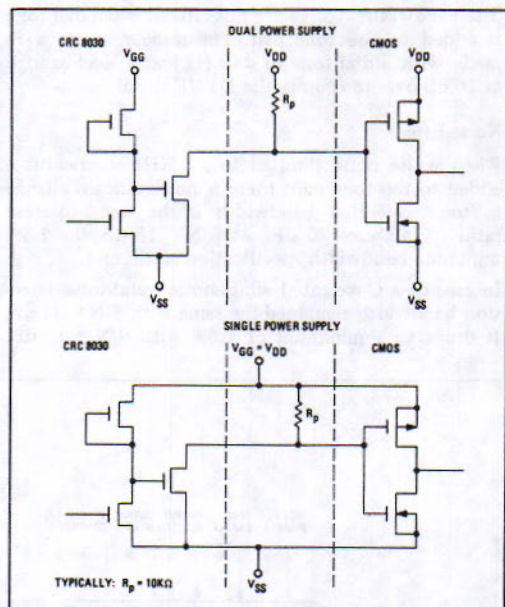

Figure 16. CRC 8030/CMOS Interface
B. CMOS Drive (see figure 16):